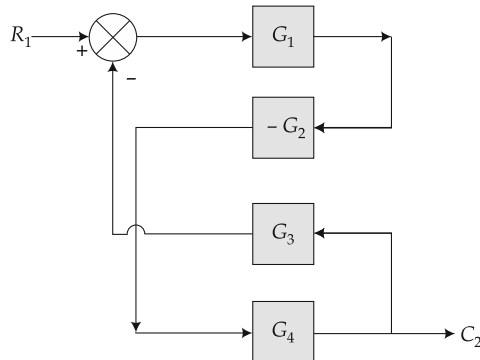
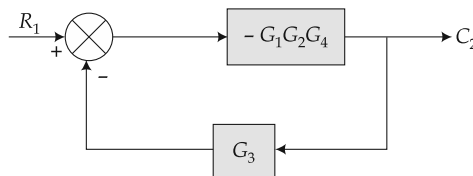
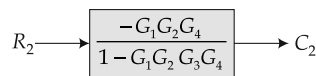

Fig. 2.45
Fig. 2.46
Fig. 2.47
Step 9: G_1 , G_2 and G_4 are in cascade, Fig. 2.45 reduces to Fig. 2.46.
Step 10: Eliminating feedback loop, Fig. 2.46 reduces to Fig. 2.47.